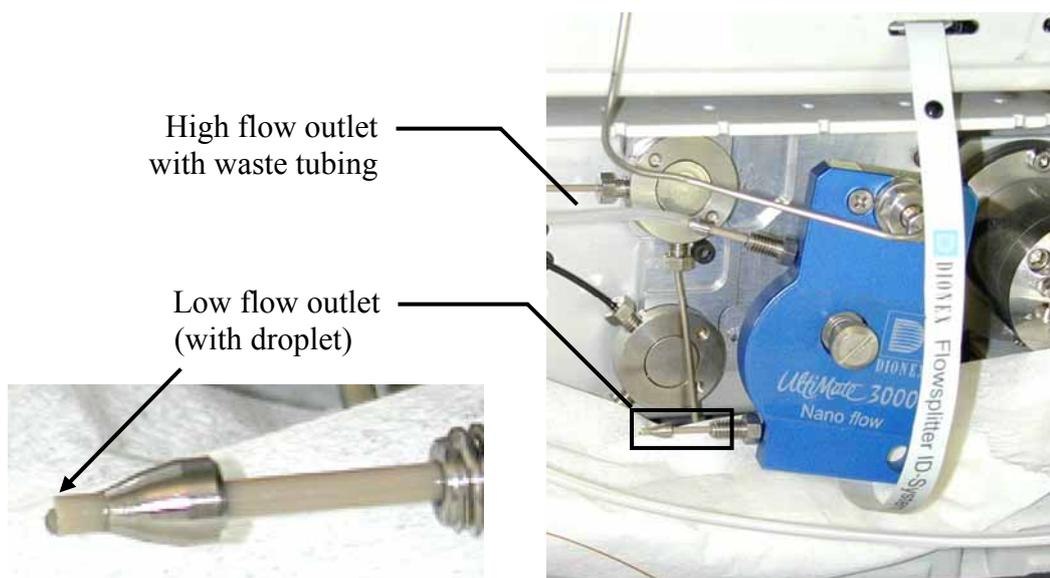

Fig. 44: Flushing the (nano) flow splitter cartridge
3. Attach a piece of waste tubing to the upper (high flow) outlet of the flow splitter cartridge. To absorb the solvent that leaks out with the following flush step, place a lint-free cloth under the splitter (→ Fig. 44).
8. Verify after approximately 2 minutes that there is a little droplet at the low flow outlet of the splitter cartridge (\rightarrow Fig. 44).